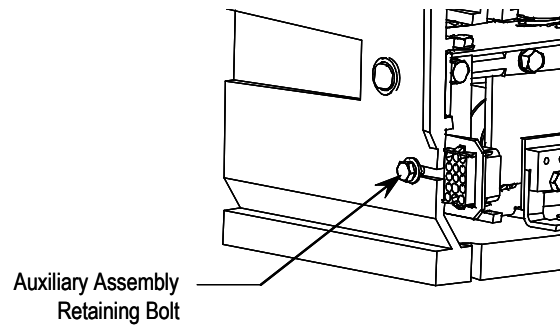

Figure 4.13 – Auxiliary Contact Adjustment
1. Loosen the nuts on the auxiliary assembly retaining bolt. This will require loosening and removal of the first nut which secures a ground wire at this location. Leave one nut loosened just enough to permit the assembly to slide along the adjustment slot as shown in Figure 4.13.